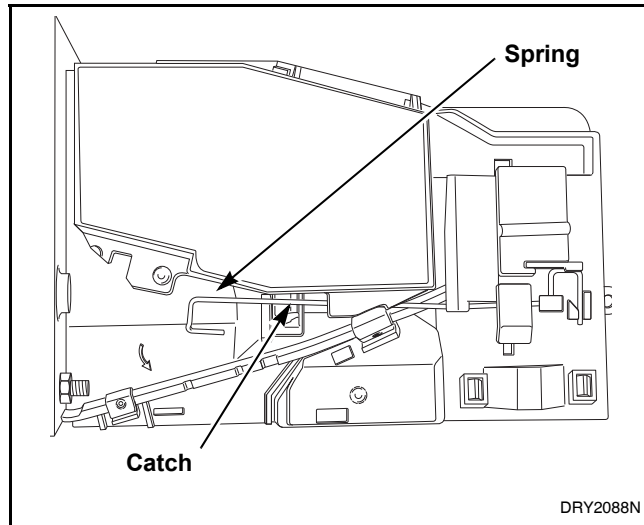

Figure 24
Coin Drops with Old-Style Spring (refer to Figure 24):
- (1) Move spring downward until cover catch is free. Refer to *Figure 24*.